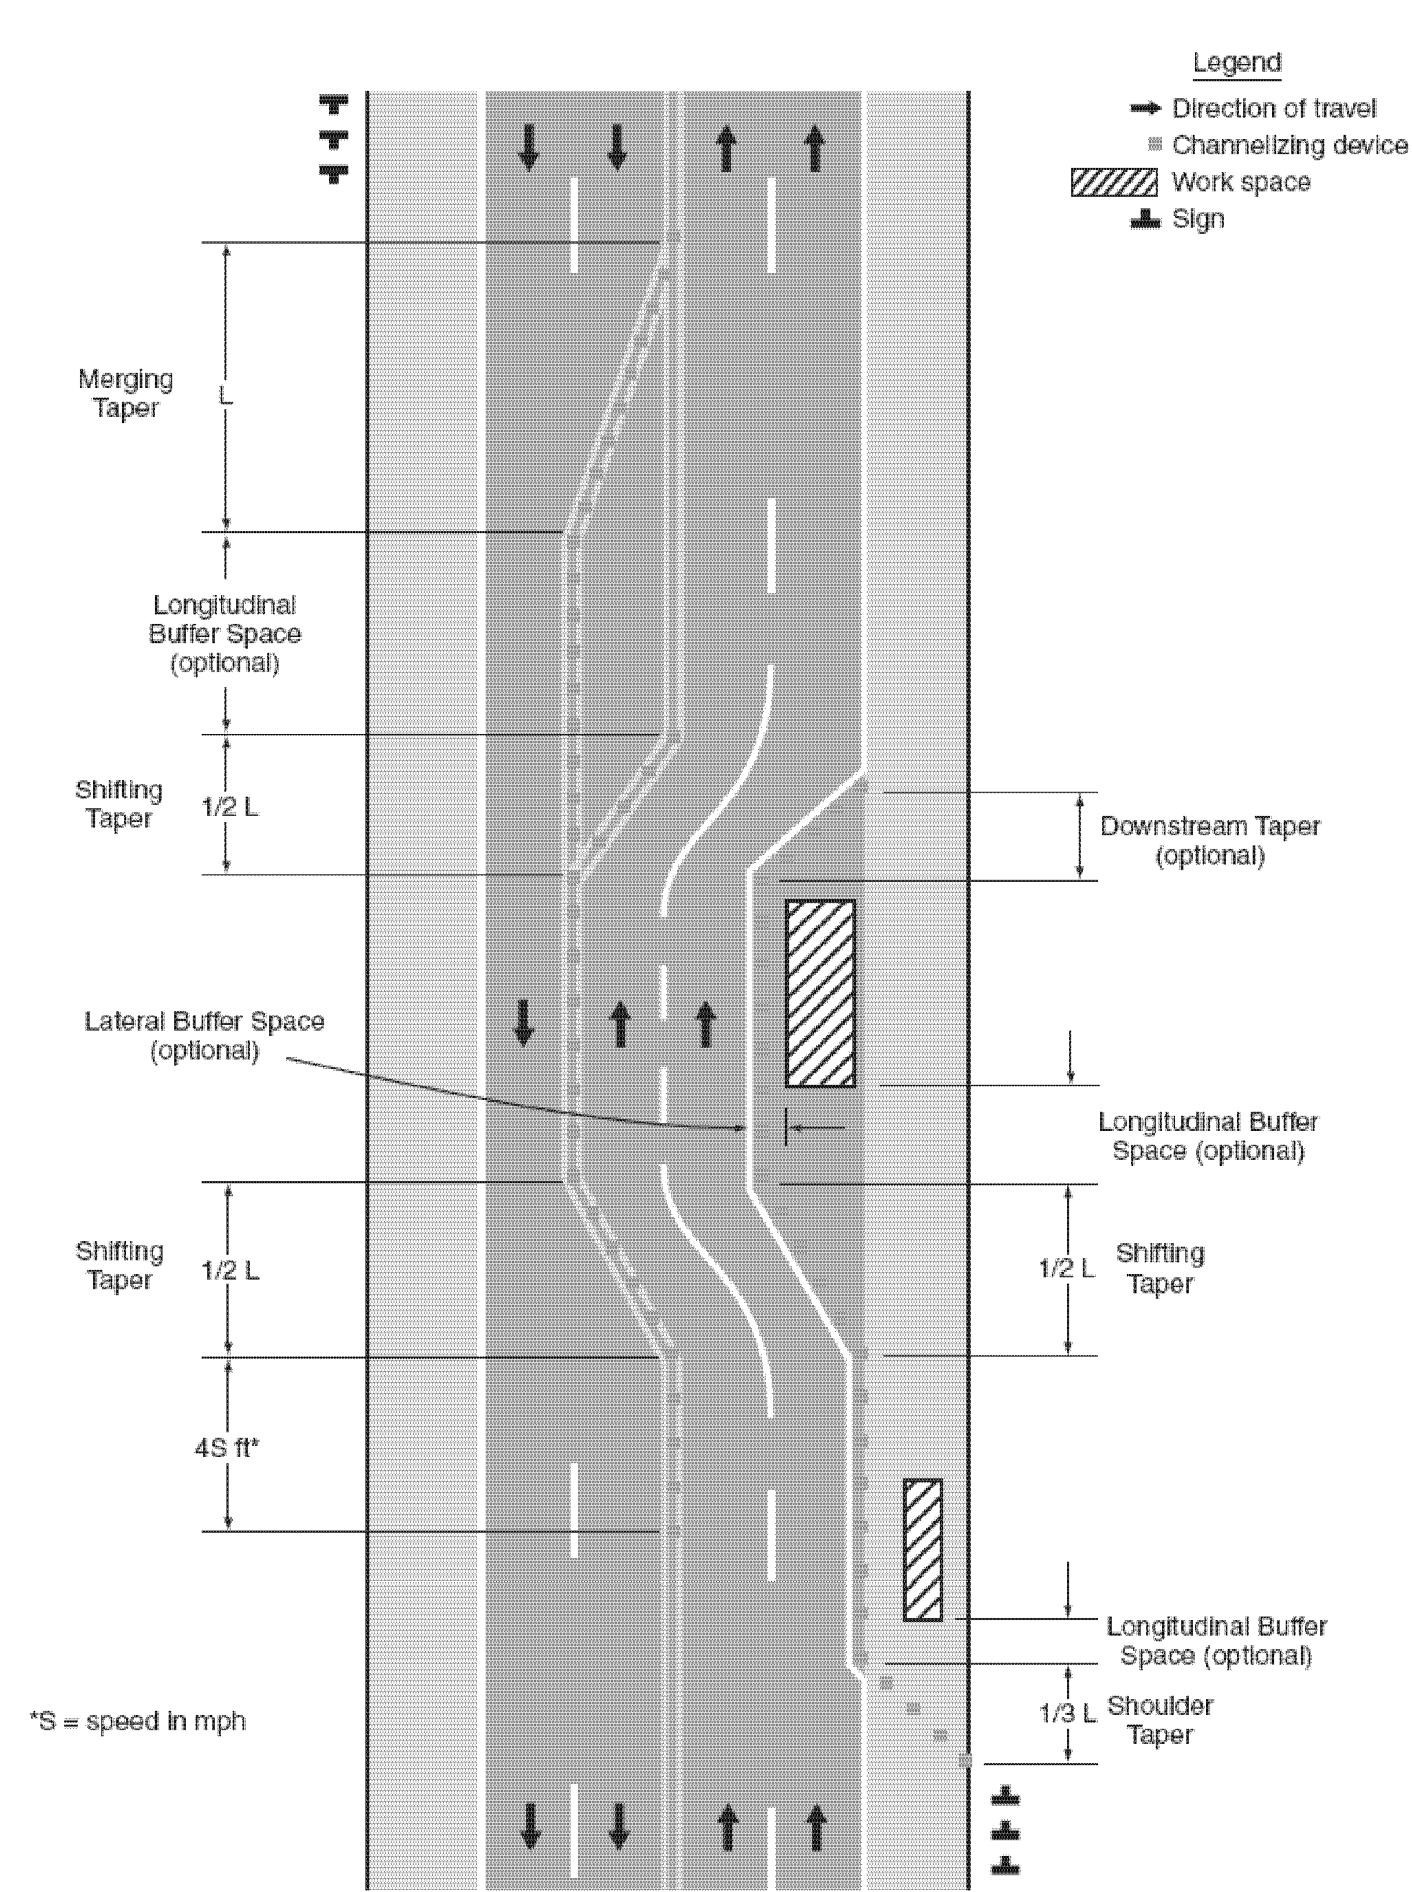

Figure 6H-1. Work Beyond the Shoulder (TA-1)
** The column headings A, B, and C are the dimensions shown in Figures 6H-1 through 6H-46. The A dimension is the distance from the transition or point of restriction to the first sign. The B dimension is the distance between the first and second signs. The C dimension is the distance between the second and third signs. (The "first sign" is the sign in a three-sign series that is closest to the TTC zone. The "third sign" is the sign that is furthest upstream from the TTC zone.)